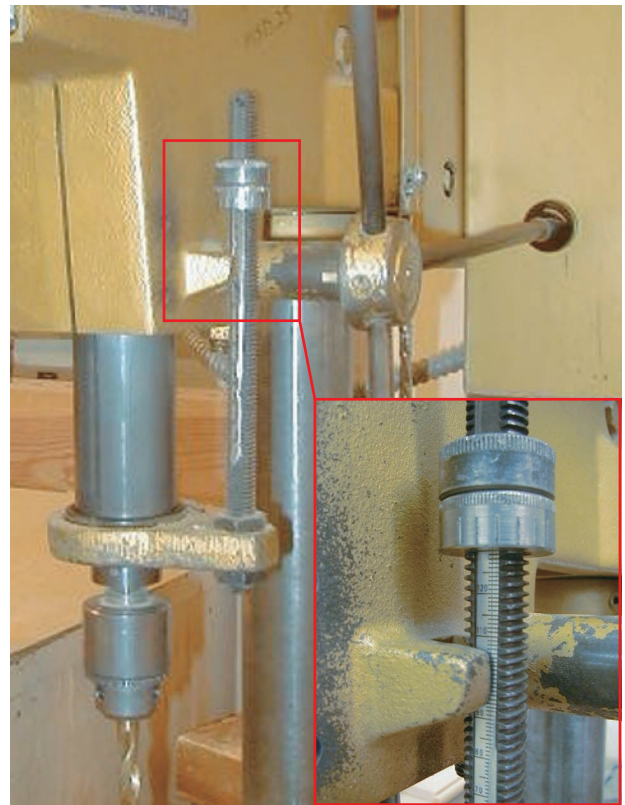

Figure 10-29 The quill stop will allow the spindle down another 20 mm. One full turn of the stop equals 1.0 mm.
- D. Quill depth control (also called a quill stop) to limit and control the hole depth. Most quill stops (Fig. 10-29) are graduated with a vertical rule and division lines. One full turn often equals an increment of $\frac{1}{16}$ -in. change, or a 2-mm change, for example. Take the time to investigate what those graduations equal on your lab's press.